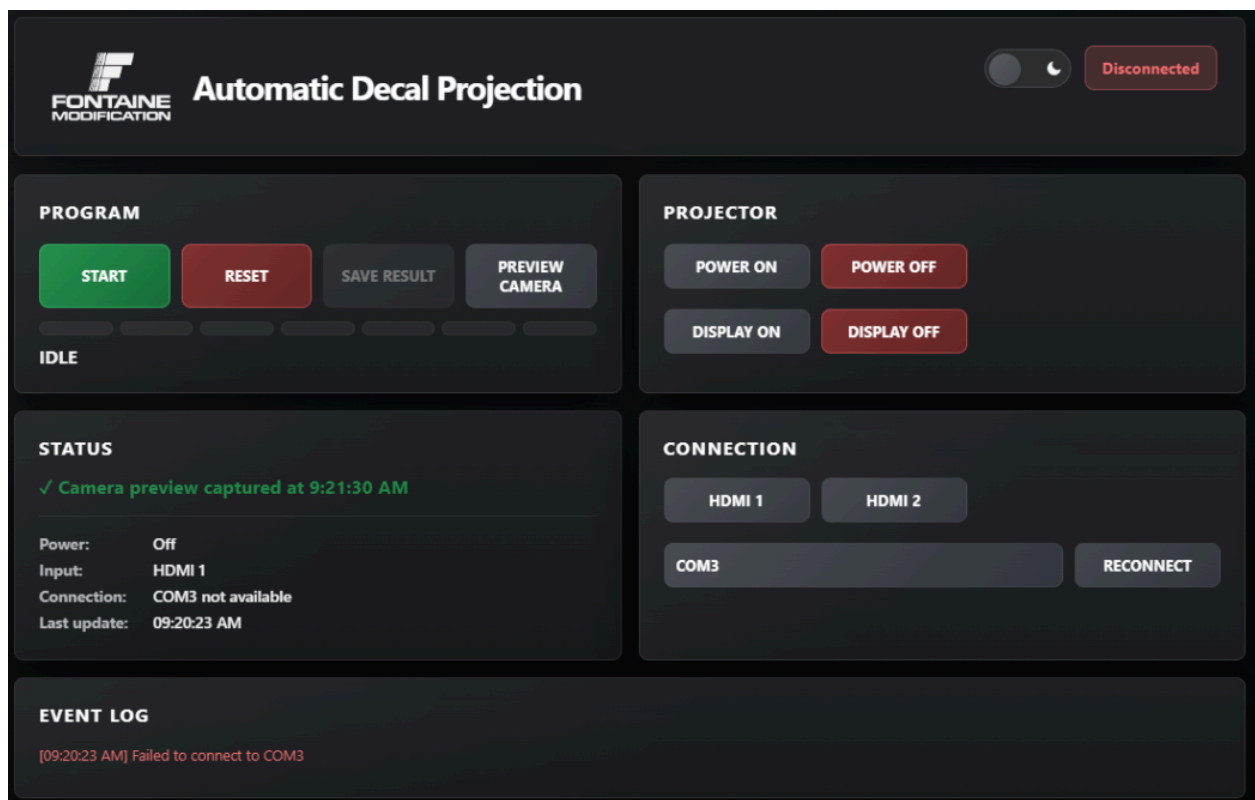

Fig 2. GUI Main Dashboard
6. Truck door is centered in the camera view using the PREVIEW CAMERA button (Fig. 2)
Login to the system with user credentials. Press the green START button on the dashboard to begin the main workflow (Fig. 2).